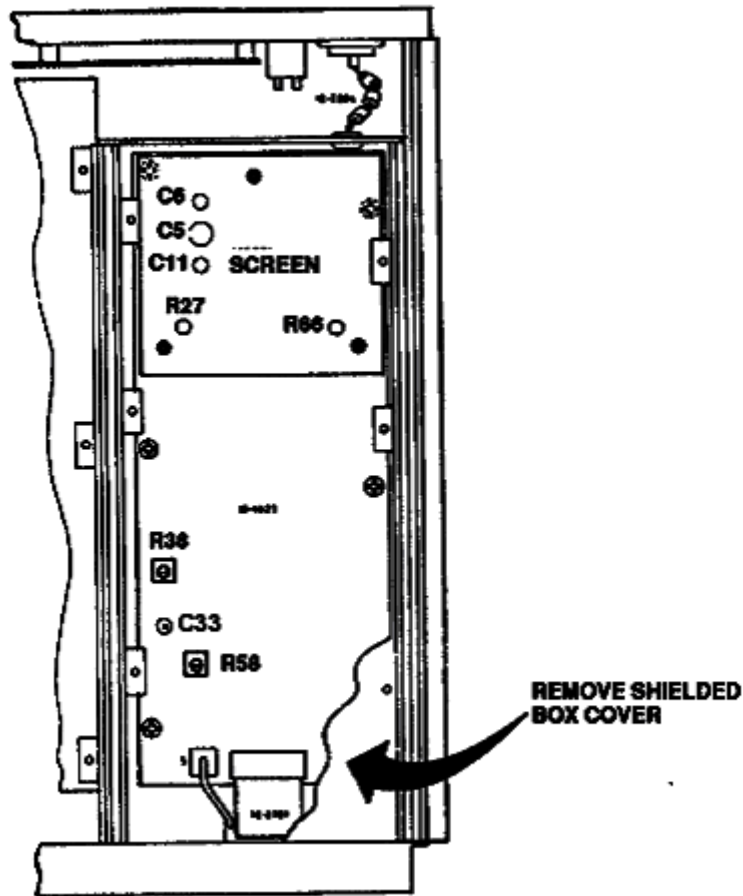

Figure 2. View of underside of module assembly.
3Figure 2.
(1) Set calibrator output for an initial 1.000V, 1kHz wideband output. Adjust calibrator for TI indication equal to the value recorded in table 3 for 1.000V, 1kHz, to establish a 1 kHz reference. Press calibrator **NEW REF** pushbutton.
(2) Set calibrator frequency to 10 MHz and adjust A3C33 fig. 2 for value recorded in table 3 for 1.000V, 1 kHz. Repeat steps **8 a** (4) through (6) above (R).